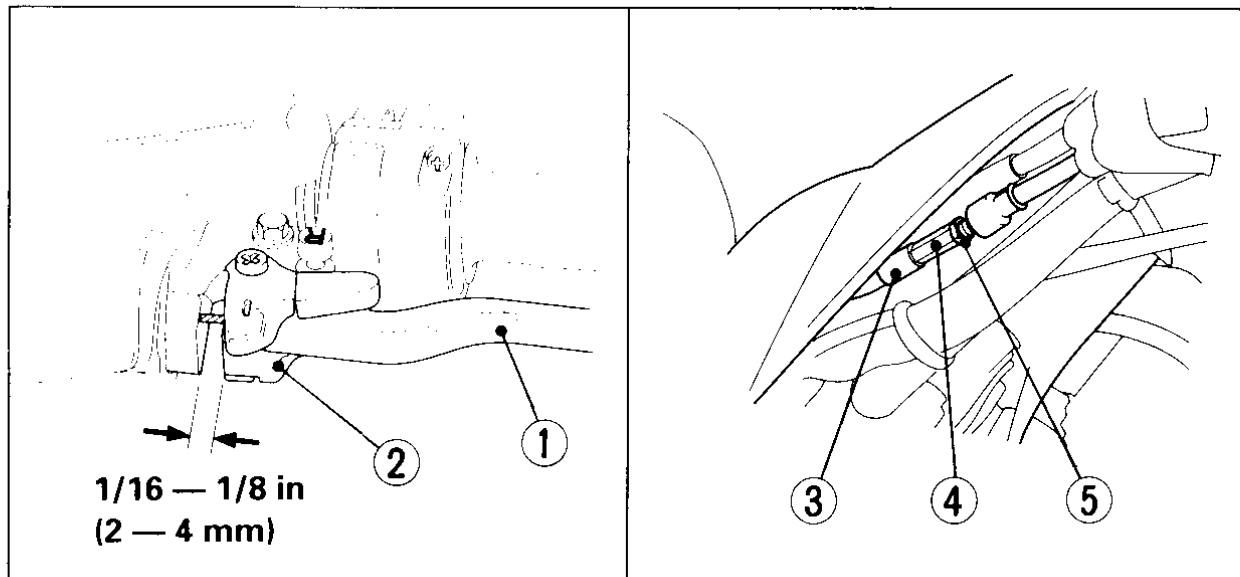

Fig. 4-18
Measure the reverse assist lever (2) free play. Free play, measured at the lever (2) end near the cable (Fig. 4-18), should be within 1/16—1/8 in (2—4 mm).